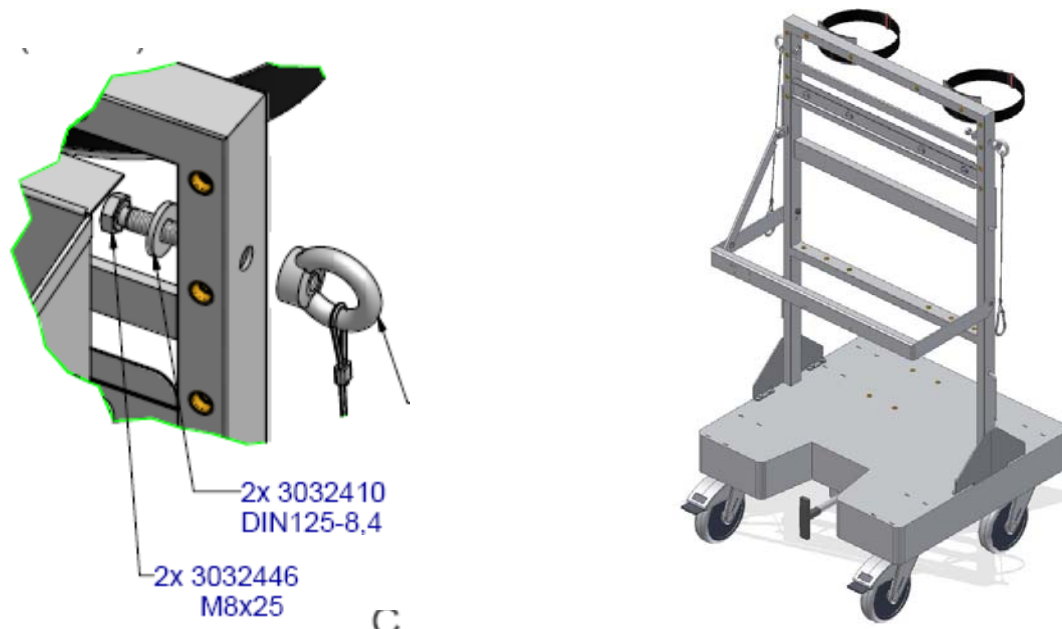

Figure 3 – Eyelet bolts installation
- Locate and install eyelet bolts (one each side of upright) with M8X25 screws (LMW P/N 3032446) and washer (LMW P/N 3032410) (see Figure 3)